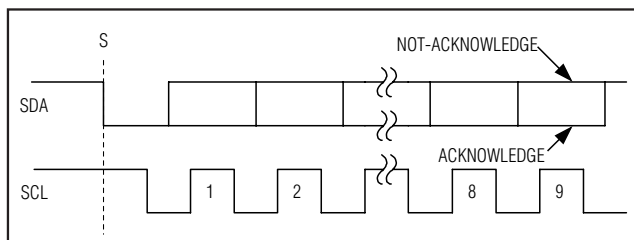

Figure 6. Acknowledge Bits
Data transfers are acknowledged with an acknowledge bit (A) or a not-acknowledge bit (\overline{A}). Both the master and the MAX11644/MAX11645 (slave) generate acknowledge bits. To generate an acknowledge, the receiving device must pull SDA low before the rising edge of the acknowledge-related clock pulse (ninth pulse) and keep it low during the high period of the clock pulse (Figure 6). To generate a not-acknowledge, the receiver allows SDA to be pulled high before the rising edge of the acknowledge-related clock pulse and leaves SDA high during the high period of the clock pulse. Monitoring the acknowledge bits allows for detection of unsuccessful data transfers. An unsuccessful data transfer happens if a receiving device is busy or if a system fault has occurred. In the event of an unsuccessful data transfer, the bus master should reattempt communication at a later time.